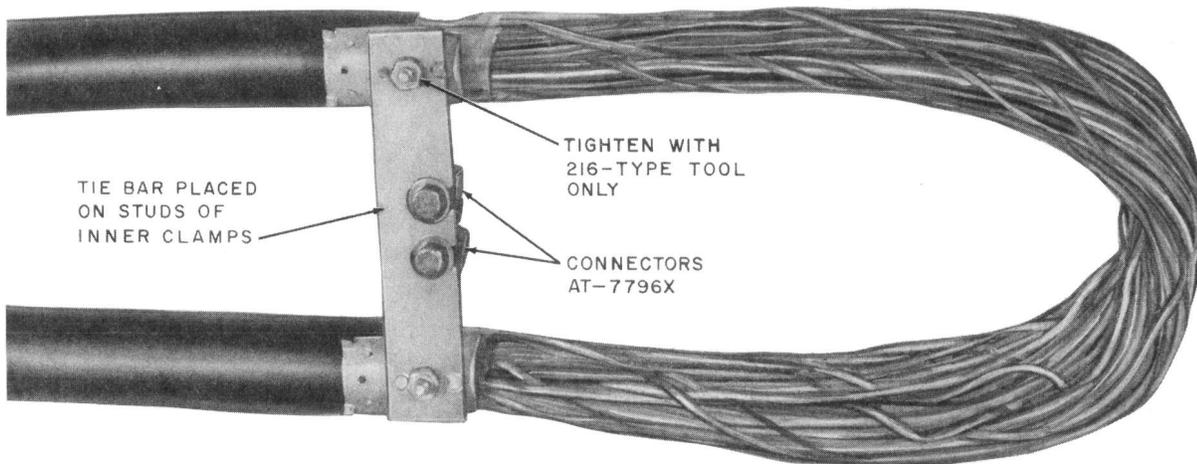

Fig. 21—Installed Tie Bar
- 4.03 Install and secure tie bar on studs of inner clamp with lockwasher, flat washer, and nut (Fig. 21). **Tighten with 216-type tool only.** This provides sheath continuity across sheath opening and mechanical rigidity for the loop.